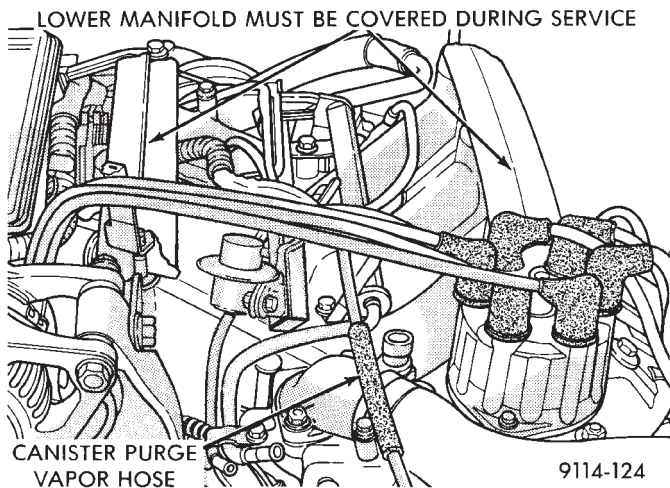

Fig. 12 Vacuum Connections at the Fuel Rail
(15) Cover intake manifold while servicing injector fuel rail (Fig. 12).
(16) Remove vacuum hoses from fuel rail (Fig. 12).